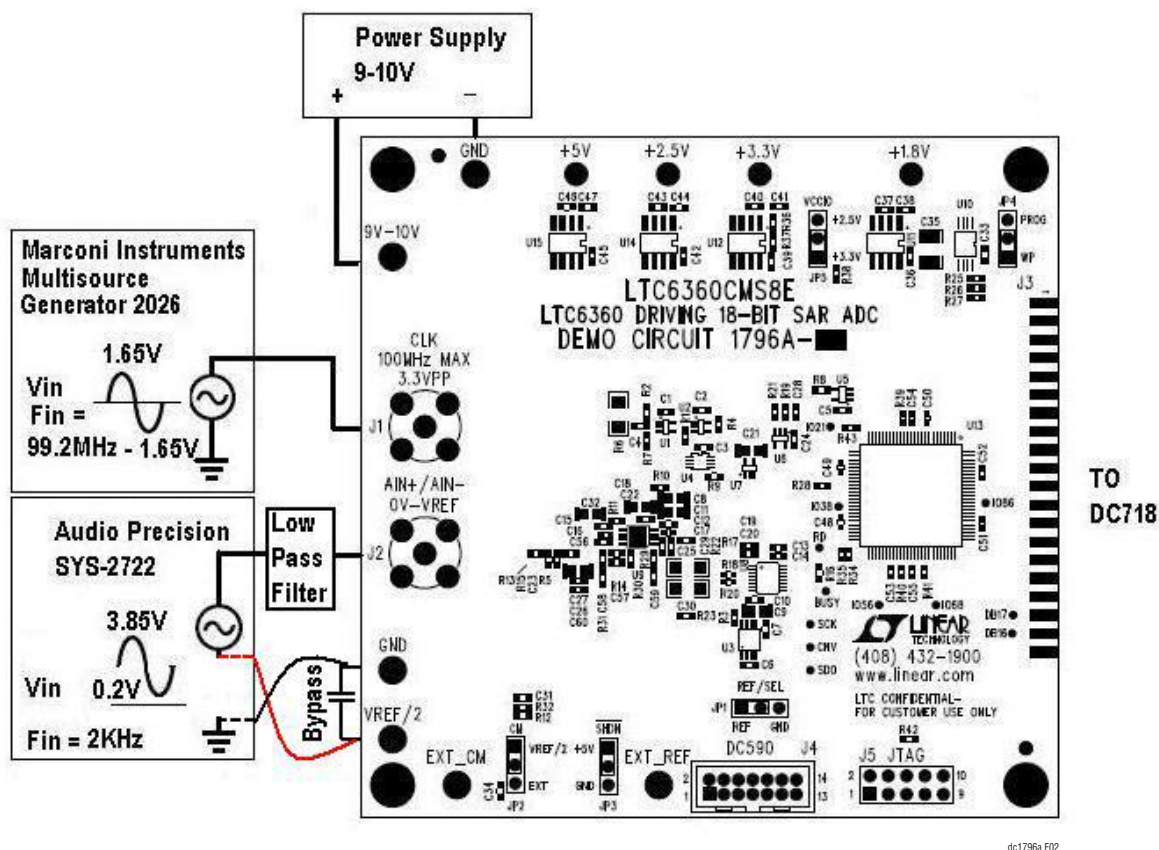

Figure 2. DC1796A Test Diagram
This board is tested by measuring the distortion at -1dBFS , 2kHz single-ended input, as shown in Figure 2.
1. Make sure that all the jumpers are set as shown in Figure 2 (DC1796A test diagram).